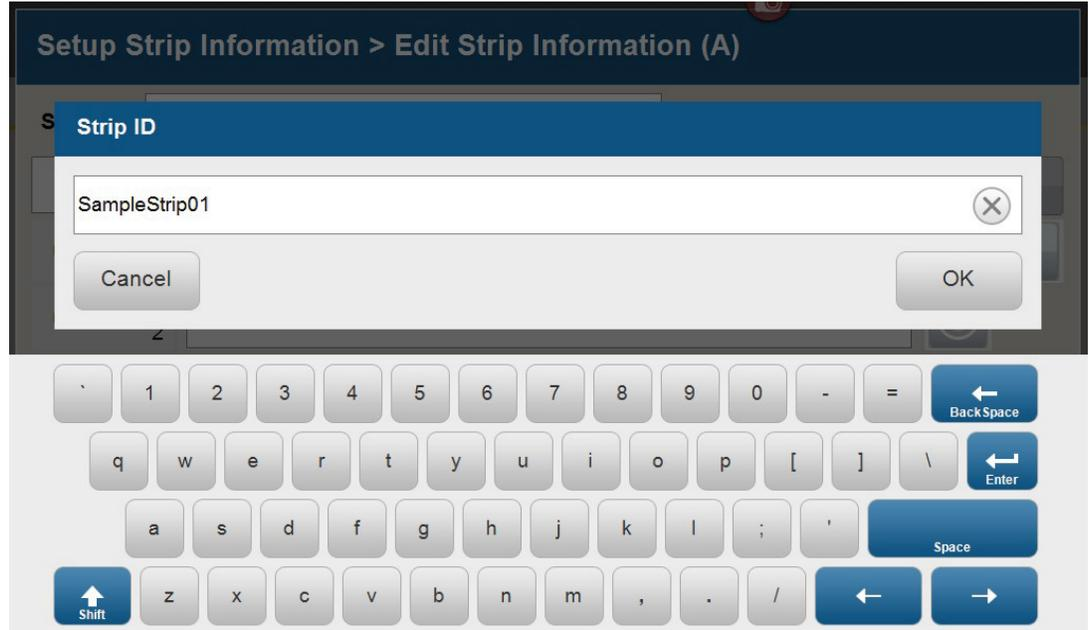

Figure 12. 'Set Strip ID' window.
- The default Strip ID is date and time. It can be modified by selecting the Strip ID field. This opens the 'Set Strip ID' window and a keypad will become active on the touch screen (Figure 12). Alternatively, the Strip ID can be entered using a traditional keyboard if one is connected to the Spectrum Compact CE System. Enter the appropriate Strip ID, and then select **OK** to exit and return to the 'Edit Strip Information' screen.